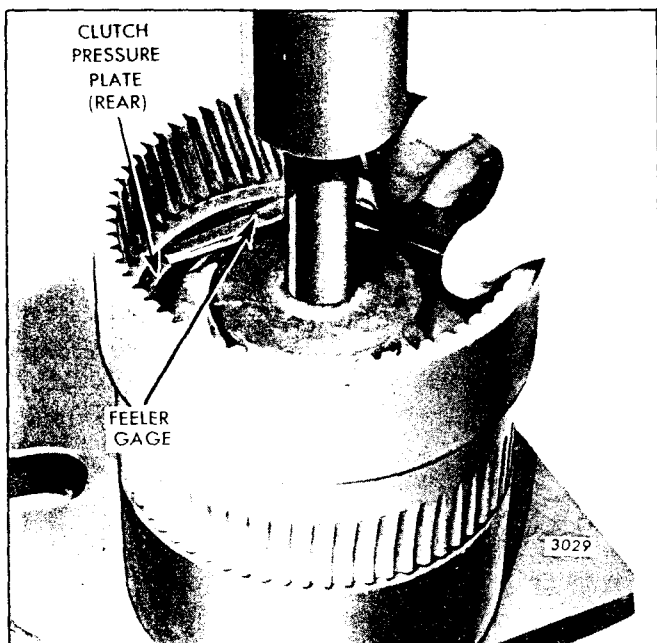

Fig. 63 - Measuring Gap for Forward Clutch Selective Spacer (Snap Ring)
- a. Support the ring gear and forward clutch assembly on the bed of an arbor press, with the forward clutch piston cylinder end of the assembly facing down (Fig. 63) and the end of the ring gear resting on steel or wood supports.
compress the pressure plates and clutch plates against the snap ring (spacer) between the front clutch pressure plate and the clutch piston cylinder. Then measure the clearance between the rear face of the rear pressure plate and the shoulder of the snap ring groove inside the ring gear at several places with feeler gages as shown in Fig. 63 and record.